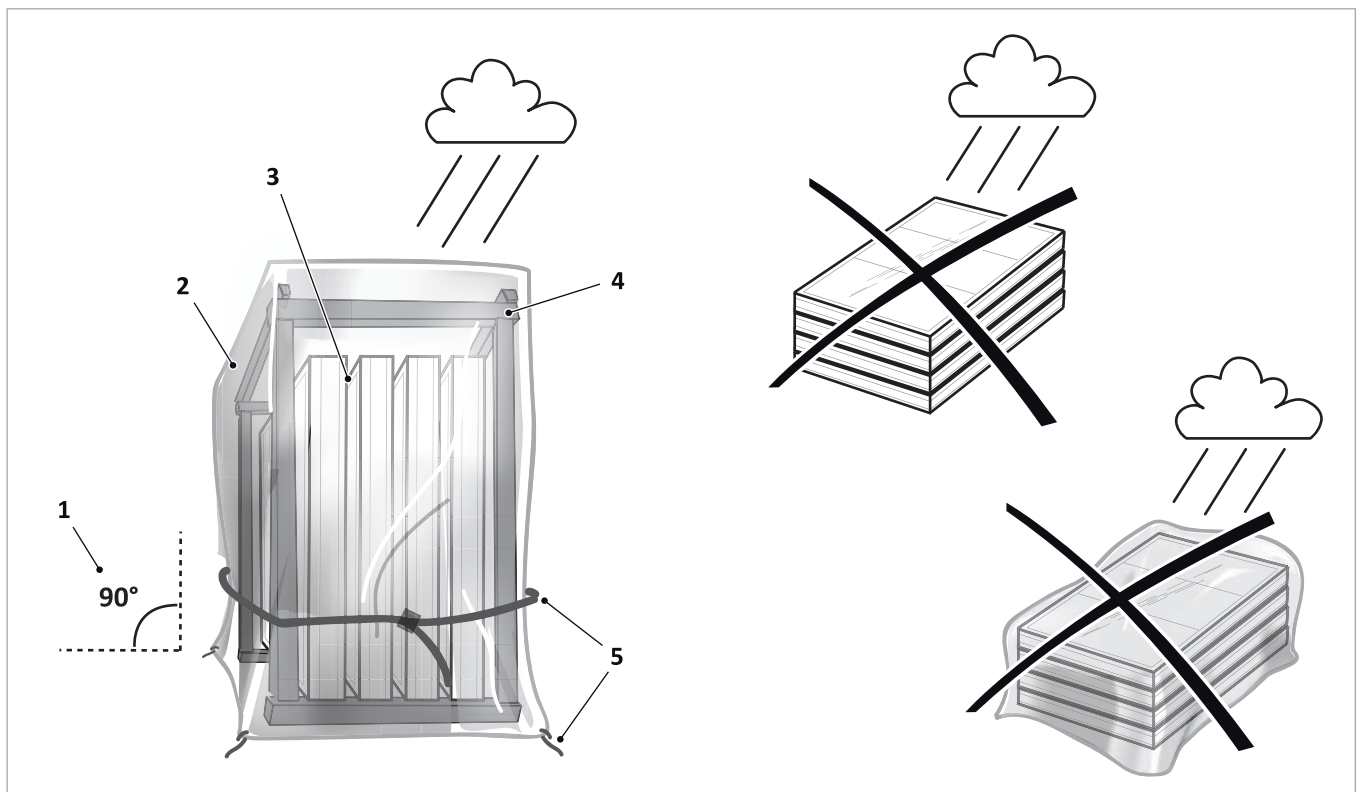

Fig. 1: Storage outdoors, max. 14 days
- Store collectors on the wooden transport guard provided or standing on squared timber with intermediate layers (see → fig. 1, page 7).